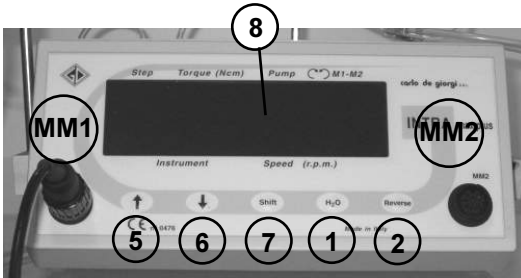
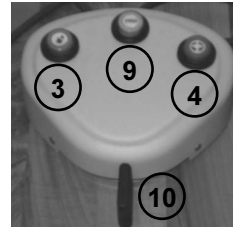
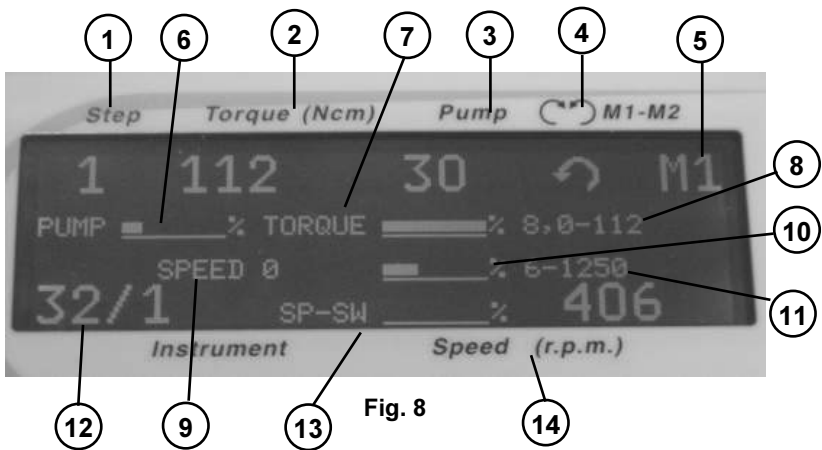

Fig. 6
Fig. 7
Fig. 8
The appliance features the following control devices on the front panel (Fig. 6):
- water pump on/off button "H2O" (1);
- "reverse" button (2) serves to reverse the direction of rotation of the tools;
- the two commands described above are replicated also on the footswitch (Fig. 7), where the green left-hand button (3) controls starting and stopping of the water pump, and the red right-hand button (4) serves to reverse the direction of rotation of the tools;
- "↑" (5) and "↓" keys (6) to edit the field currently selected on the display (8);
- "shift" key (7) to select the field to edit on the display (8);
- display (8) shows the editable parameters on the two outer lines; the parameters (graphically) set and the relative numeric intervals according to the handpiece used;
- the "shift" key can therefore be used (the cursor flashes on the selected field) to edit the values using the "↑" (5) and "↓" (6) keys.
- the footswitch (Fig. 7) is equipped with a yellow button (9) that serves to change the preset program and vary the editable parameters when used in conjunction with the green (3) or red (4) buttons;
- it is also equipped with a lever (10) that can be moved to select the parameters to be edited or start the motor and control the speed up to the maximum value previously entered in the program.
Figure 8 shows the data that appear on the display as described below:
- 3) select the program number by positioning the cursor using the "shift" key (7, Fig. 6) in field 1 shown in figure 8, and then using the "↑" (5 in Fig. 6) and "↓" (6 in Fig. 6) keys until obtaining the program required;
- 5) push the footswitch lever (10 in Fig. 7) to start the motor and change the speed; use the previously described control devices on the footswitch (see § 5.1) to start or stop the water pump and reverse the direction of run of the motor as required.
- by releasing the footswitch (Fig. 7);
To edit a program using the commands on the front (see Figs. 6 and 8): position the cursor on the "Step" field (1 in Fig. 8) and use the "↑" (5 in Fig. 6) and "↓" (6 in Fig. 6) keys to select the number of the first free or unused program.
Once you have selected a program to edit, move around the fields using the "shift" key (7 in Fig. 6) and change the relative parameter values with the "↑" (5 in Fig. 6) and "↓" (6 in Fig. 6) keys; when you have finished the edit procedure to save the program return to the "program n°" field and then quit the program by going to the next or the previous program by pressing "↑" (5 in Fig. 6) and "↓" (6 in Fig. 6). If the appliance is switched off before this final step the changes to the parameter values will not be saved in the memory and the new program settings will be lost.
To edit a program using the footswitch (see Fig. 7 and 8), press the yellow button (9 in Fig. 7), bring the flashing cursor on the "Step" field (1 in Fig. 8) by means of lever (10 in Fig. 7) and select the first free or unused program using the green (3 in Fig. 7) and red (4 in Fig. 7) buttons.
Once you have found the program to be edited, move around the field using lever (10 in Fig. 7), editing the parameter values using the green (3 in Fig. 7) and red (4 in Fig. 7) buttons; when the setting is complete, to save the program, return to the "Step" field (1 in Fig. 8) and quit the program, by moving to another program by pressing the green (3 in Fig. 7) and red (4 in Fig. 7) buttons. If the appliance is switched off before this final step the changes to the parameter values will not be saved in the memory and the new program settings will be lost.